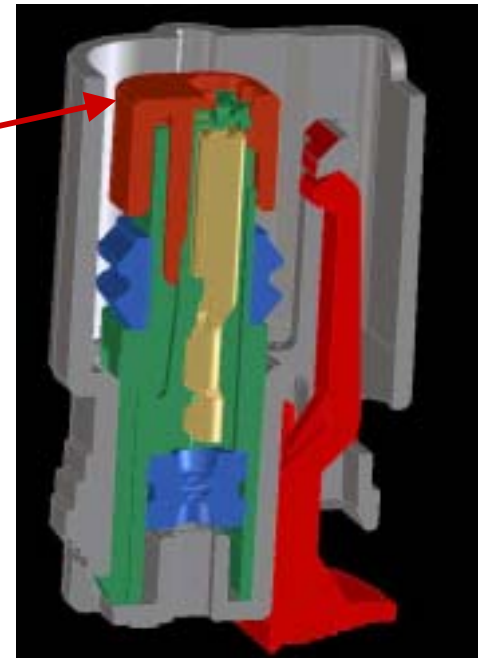

Fig. 3-2
- n TPA shown “LOCKED” position (FIG. 3-2)